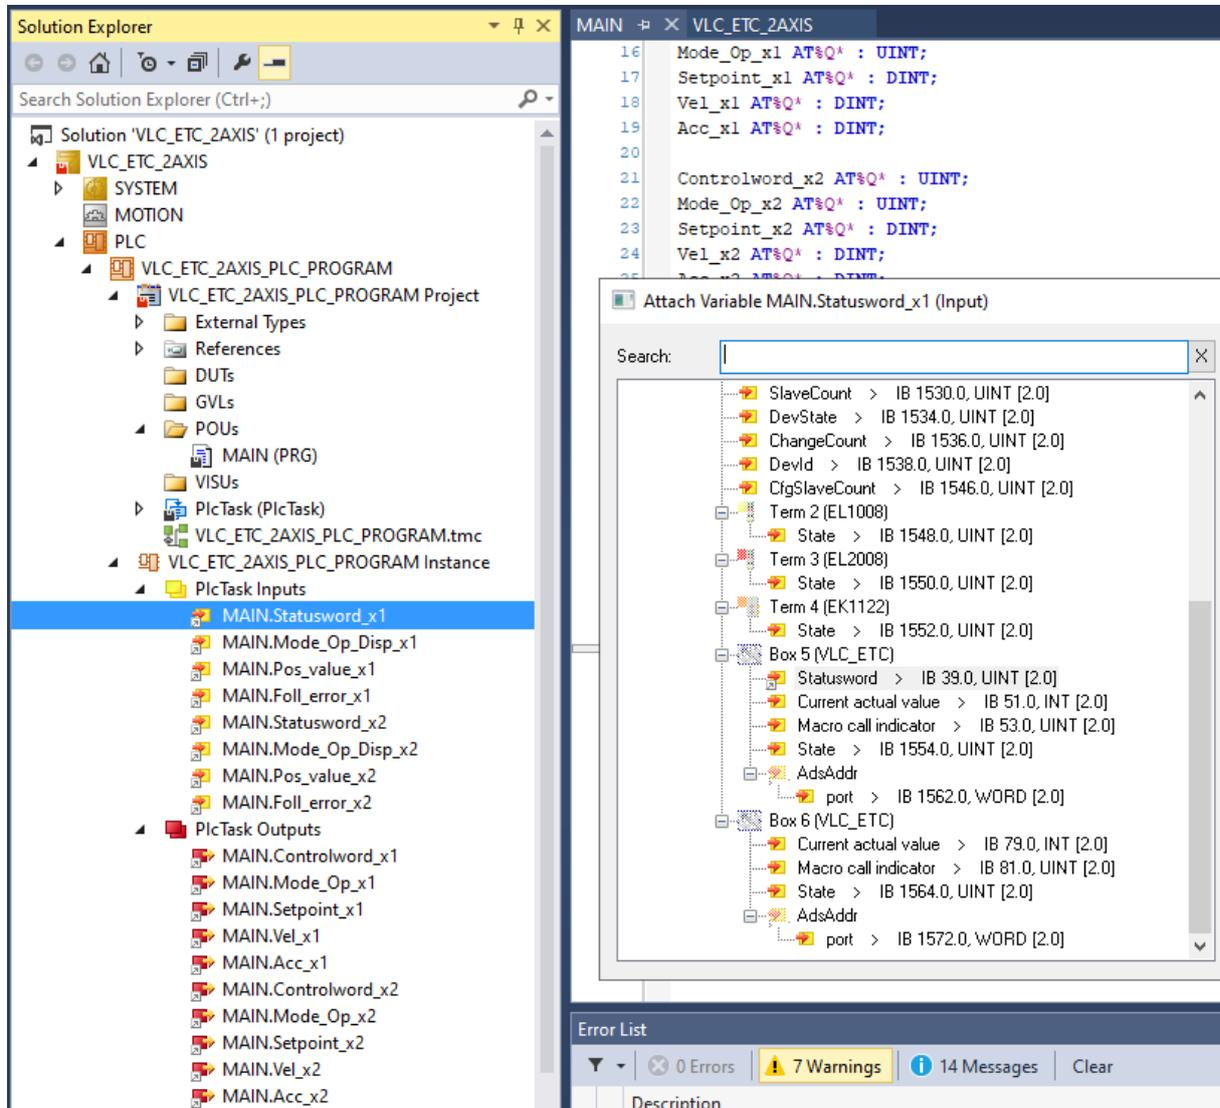

Figure 3.25.
- As shown in Figure 3.25, expand the 'PlcTask Inputs' and 'PlcTask Outputs', under which there is a list of input and output variables that are defined in the PLC program editor. Right-click on each of the variables and link it to the corresponding variable with a similar name belonging to the VLC-ETC. Variables with '_x1' suffix are to be linked with the VLC-ETC connected to the linear axis, while '_x2' corresponds to the rotary axis.